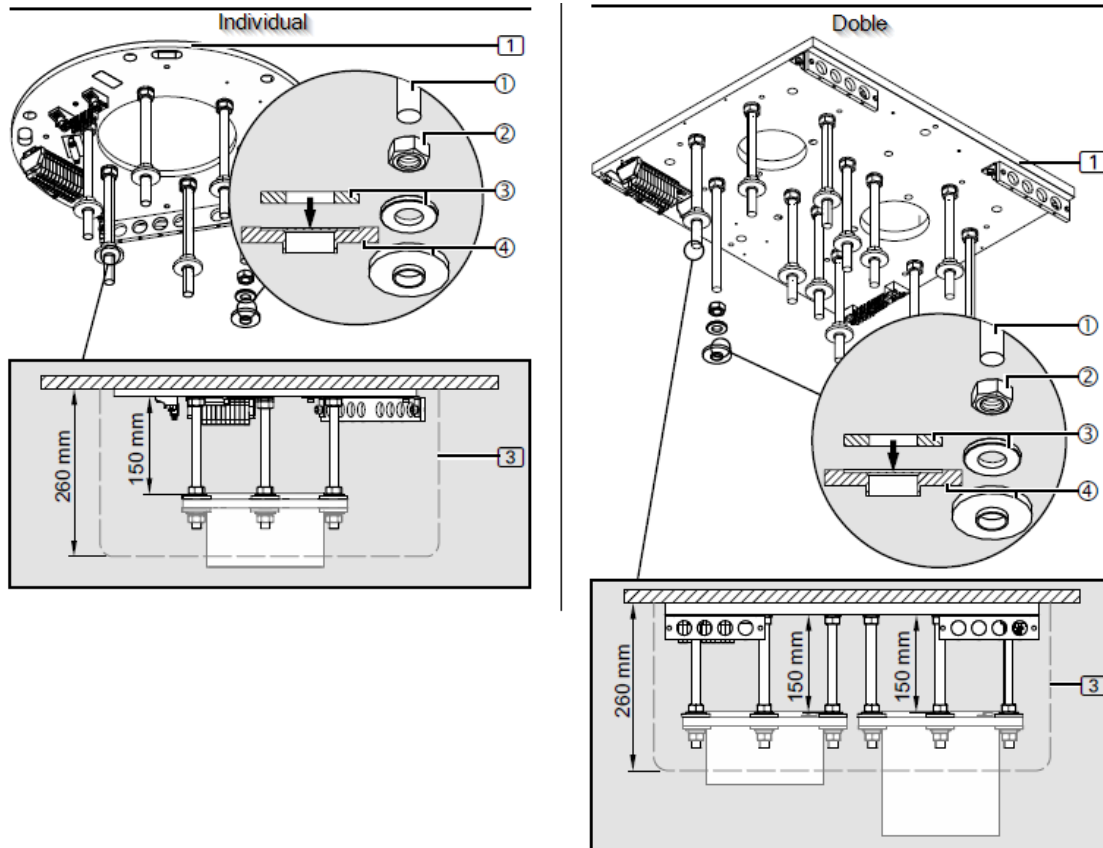

Fig. 15 Fitting of the upper insulation to the threaded bolts without a false ceiling
- Adjust the distance between the M16 hex nuts (2) and the interface plate from 1 to 150mm.
- Using a digital spirit level, align the M16 hex nuts (2) horizontally.
- Fit 1 flat washer with an outer diameter of 34 mm (3).
- Place 1 plastic insulating disc (4) (as shown in figure 15) in such a way that the flat washer with an outer diameter of 34 mm (3) sits on the plastic insulating disc (4).
- Secure the plastic insulating disc (4) to the M16 threaded bolts (1) with adhesive or elastic tape.